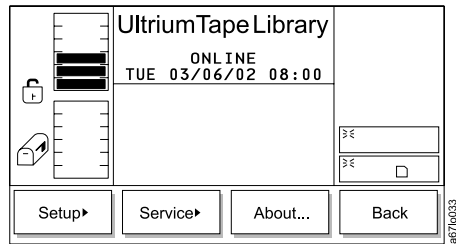

Figure 296. Main Menu (alternate screen)
- From the Main Menu's initial screen, press the button below the **More** softkey. The Main Menu's alternate screen displays (see Figure 296 on page 205).